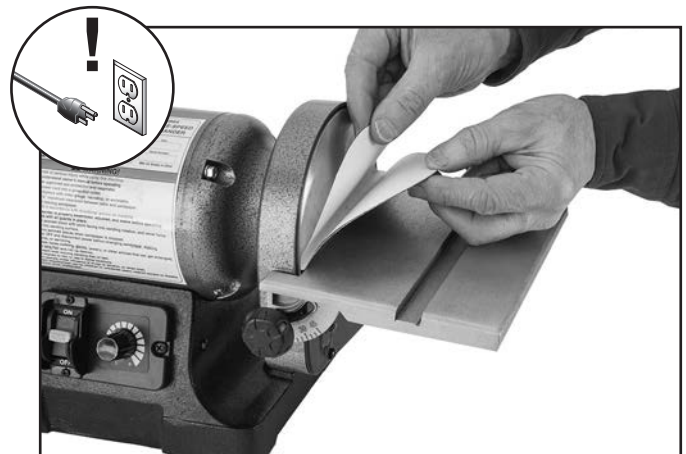

Figure 13. Example of attaching sanding disc.
5. Slip half with protective layer between disc and table edge, as shown in **Figure 13**.